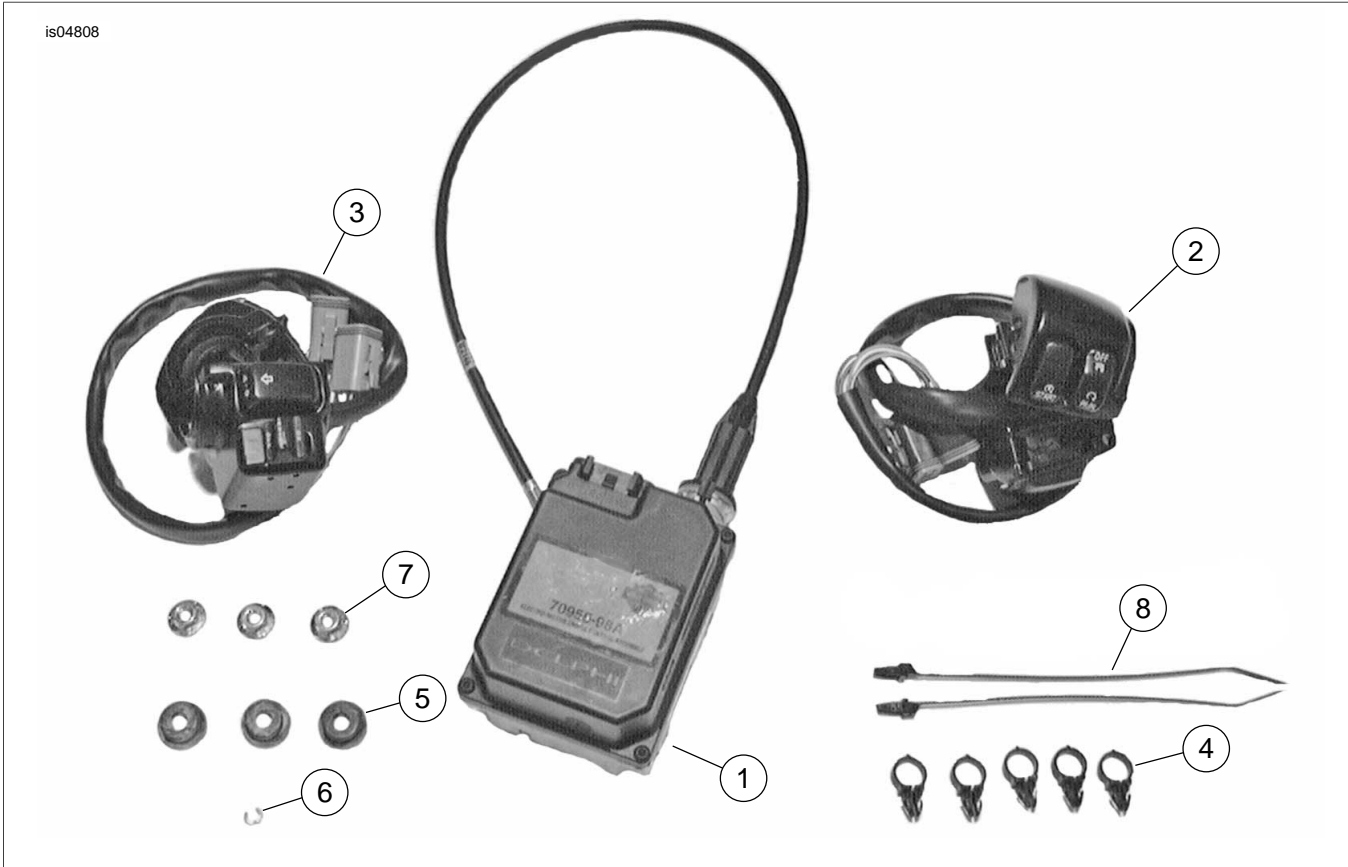

Figure 10. Service Parts for FLHR and FLHRS Cruise Control Kits
7. See Figure 10. Obtain the three flange locknuts (7) and install to cruise control module studs (inside battery box). Tighten nuts to 9-11 ft-lbs (12.2-15 Nm). Locate the 10-
8. Reinstall the fuse block cover panel by sliding (side channels) back onto mounts. Obtain cable straps (Item 8, Figure 10) from kit. Bundle wire harnesses (moved to install cruise module) along side of cruise module to allow the side cover to be reinstalled.
See Figure 10. Use new retaining ring (6) from kit when installing cable end to carburetor/induction module.
10. See Figure 10. Obtain the new right handlebar control and harness assembly (2) from kit. Install the new harness 6-place connector in same place as connector removed in the previous step. Locate the unused 4-place connector half (next to the 6-place) and install the 4-place connector from the new harness to the 4-place connector in head-lamp assembly.
- See Figure 10. Obtain two harness retainers (4) from kit. Adjust the harness so it is routed under the handlebar and secure harness conduit to holes in lower side of handlebar by inserting barbed ends of retainers.
- See Figure 10. Obtain the new left handlebar control with harness (3) from kit.
13. See Figure 10. Obtain two wire harness retainers (4) from kit and secure harness to handlebar in two places by installing barbs on retainers into holes in handlebar.